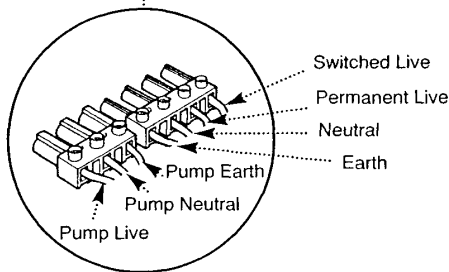

Fig. 75
3. The terminal strips may be removed by carefully pulling them forward. Connect the supply cable and the pump cable to the terminal strips (Fig. 75).